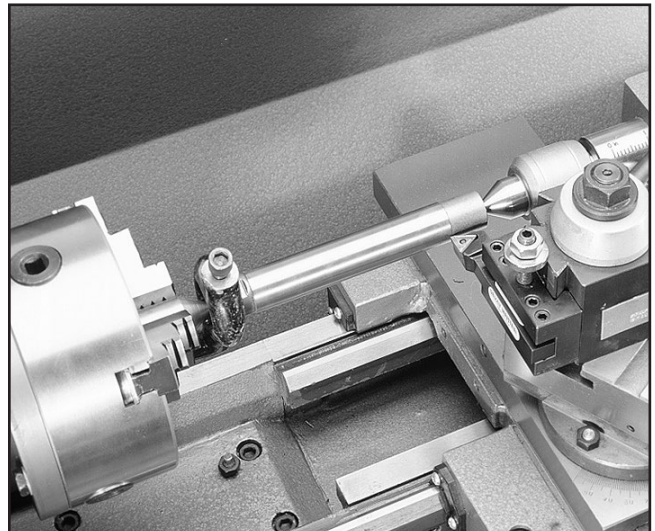

Figure 39. Bar stock mounted between centers.
4. Attach a lathe dog at the spindle end to the bar stock from **Step 1**, and mount it between the centers as shown in **Figure 39**.
The included tool post is a 200 series piston-type quick-change model. The quick-change lock lever allows for one or more tool holders to be quickly loaded and unloaded in two available dovetailed slots. By having extra tool holders and setting the tool height in advance, swapping between tooling is efficient for production-sensitive schedules. When loosened, the mounting hex nut shown in **Figure 39** allows the entire tool post to rotate 360° for angle adjustments.